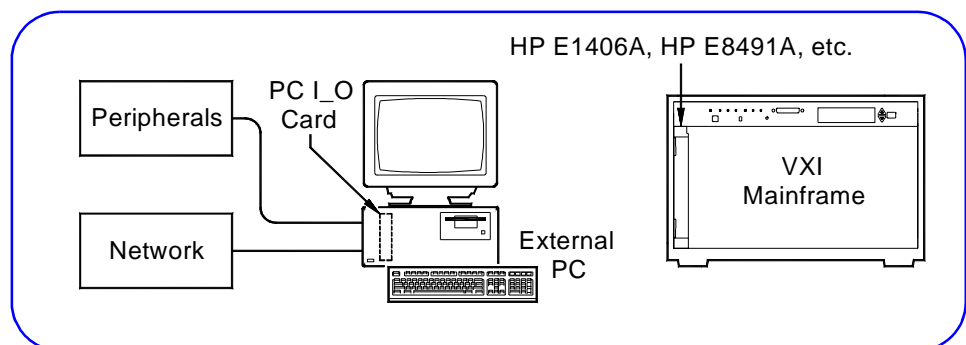

Figure 14. Installing Slot 0 Card in Mainframe
- 2 Install the VXI Slot 0 card in VXI Mainframe 1. See the applicable Slot 0 Controller User's Manual for installation steps. Figure 14 shows the hardware installed after this step.